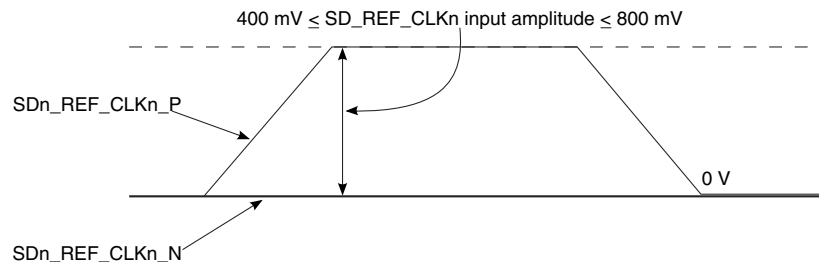

Figure 71. Single-ended reference clock input DC requirements
- The $SDn_REF_CLKn_P$ input average voltage must be between 200 and 400 mV. Figure 71 shows the SerDes reference clock input requirement for single-ended signaling mode.